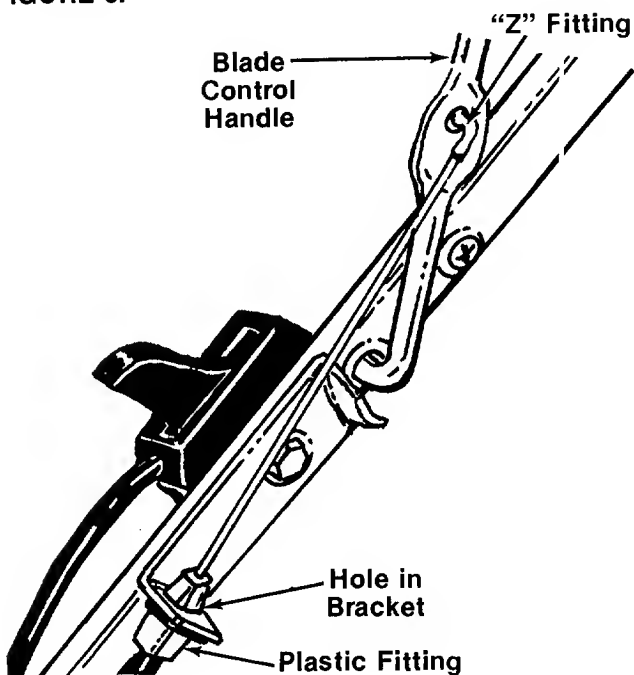

FIGURE 7.
5. Route the brake cable under the lower handle. Place the end of the brake cable into the hole in the bracket as shown in figure 7. Be careful not to bend or kink the cable. Snap the plastic fitting on the end of the cable into the hole in the bracket. Hook the "Z" end of the brake cable into the hole in the blade control handle. See figure 7.